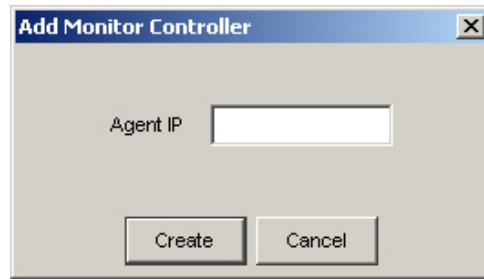

Figure 4-19: Adding RAID Agent IP
Step 3. Enter the IP address of the array you wish the Root Agent to manage. Click **OK** to complete the process. An example is shown in **Figure 4-19**.